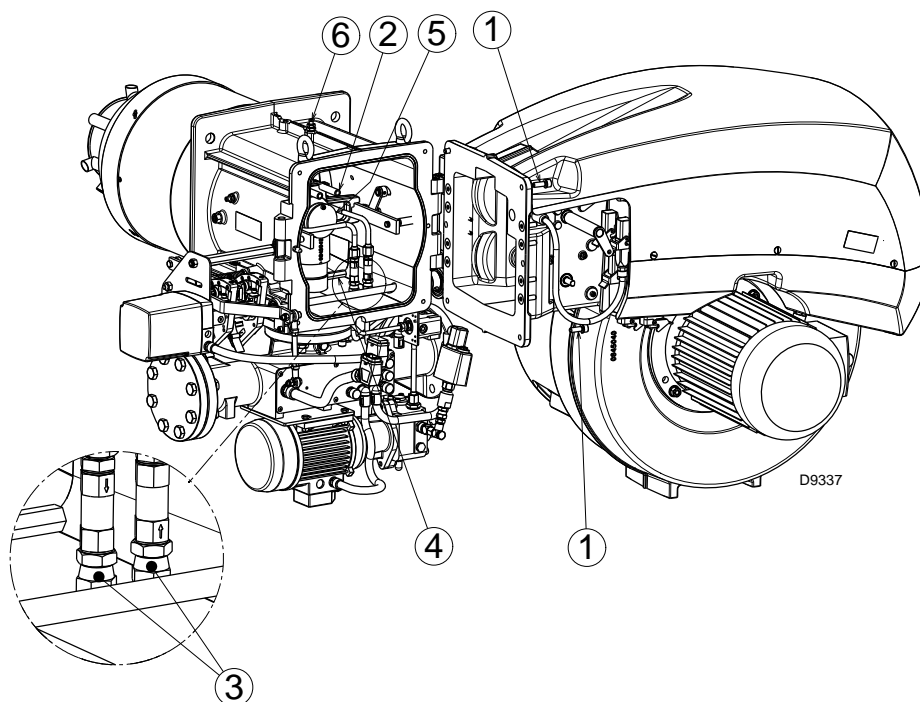

Fig. 11
- unscrew the 4 x fixing screws 1)(Fig. 11);